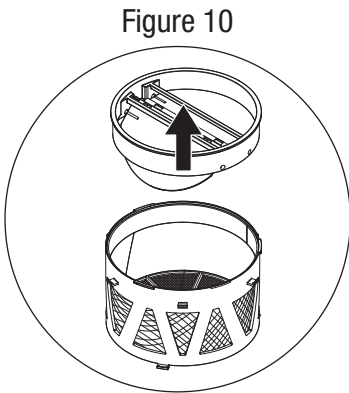

Figure 10
5. Carefully remove catch cup top (Figure 10).